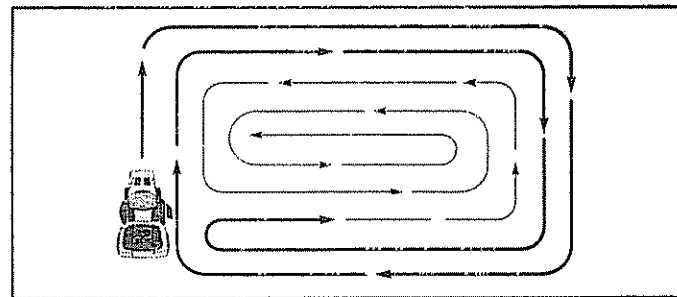

FIG. 11A
- When mowing large areas, start by turning to the right so that clippings will discharge away from shrubs, fences, driveways, etc. After one or two rounds, mow in the opposite direction making left hand turns until finished (See Fig. 11A).